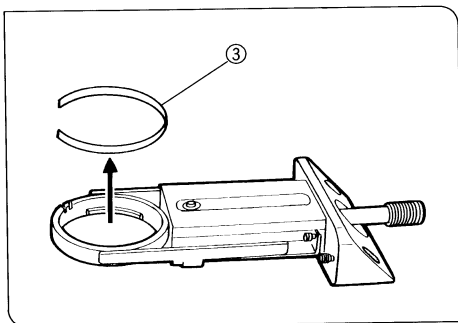

Fig. 27
3. Using tweezers, etc., remove the retaining ring ③ inserted into the filter holder. (Fig. 27)
5. If the filter is less than 2.7 mm thick, insert also the retaining ring ③. (Fig. 27)